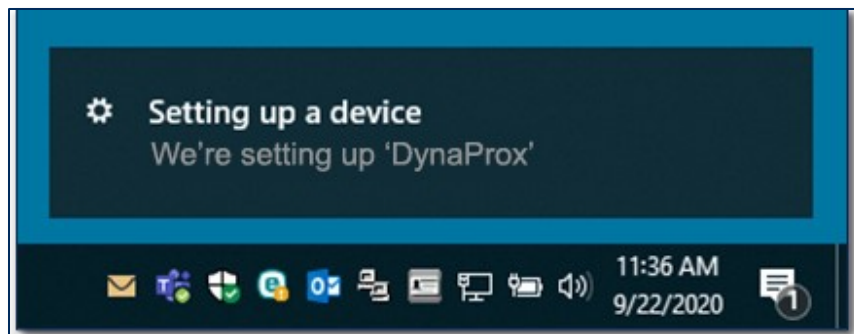
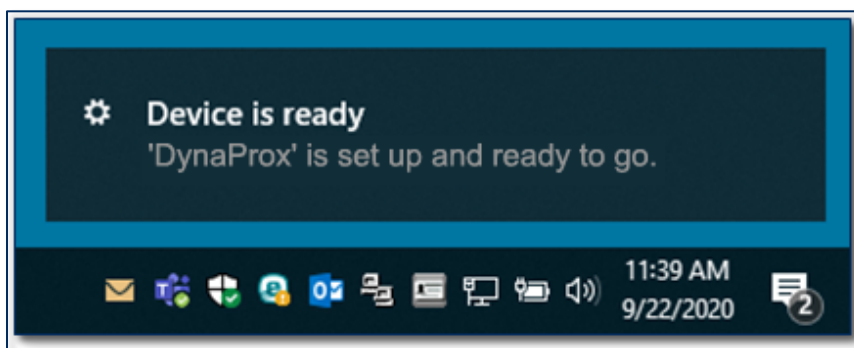
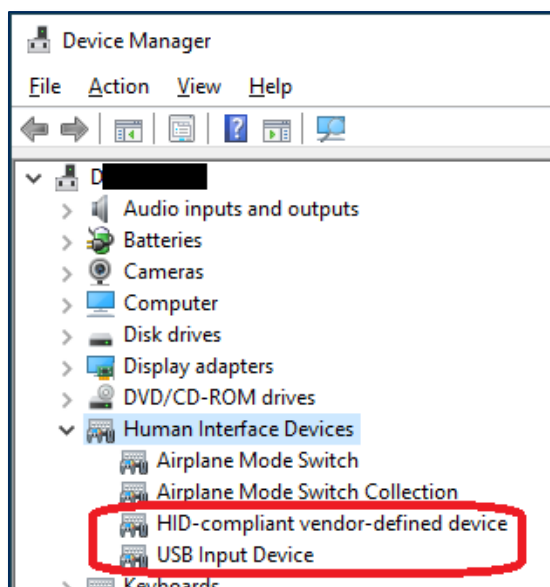
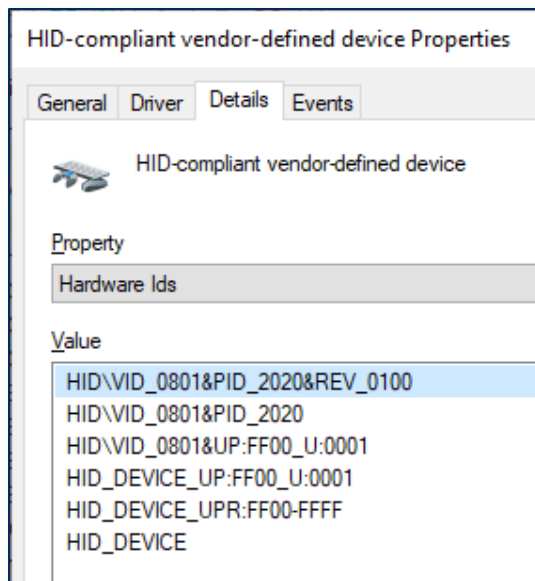

Figure 4-2 – Device Setup
Figure 4-3 – Setup Complete
Figure 4-4 – Windows Device Manager
Figure 4-5 – HID Compliant Vendor-defined Device Properties
- 4) If the specific device serial number you are connecting has not been connected to the host before, Windows system tray on the host reports it is **Setting up a device**, see **Figure 4-2 – Device Setup**. When installation is complete (approximately 30 seconds later depending on the host), Windows reports **Device is ready**, (see **Figure 4-3 – Setup Complete**) and the device shows in Windows Device Manager under **Human Interface Devices** (see **Figure 4-4 – Windows Device Manager**) as two devices: **HID-compliant vendor-defined device** (see **Figure 4-5 – HID Compliant Vendor-defined Device Properties**) with VID **0801** and PID **2020**, and **USB Input Device**.